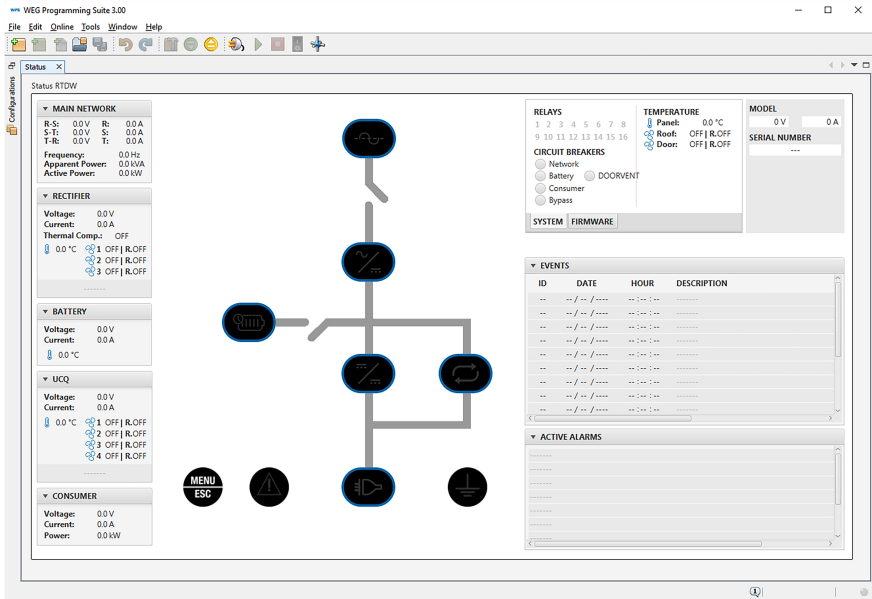

Figure 6.43: Status Assistant - Synoptic Panel
- With a double click, open the Status wizard. Through this wizard, it is possible to monitor and command the entire RTDW operation, as shown in Figure 6.43 on page 6-49.